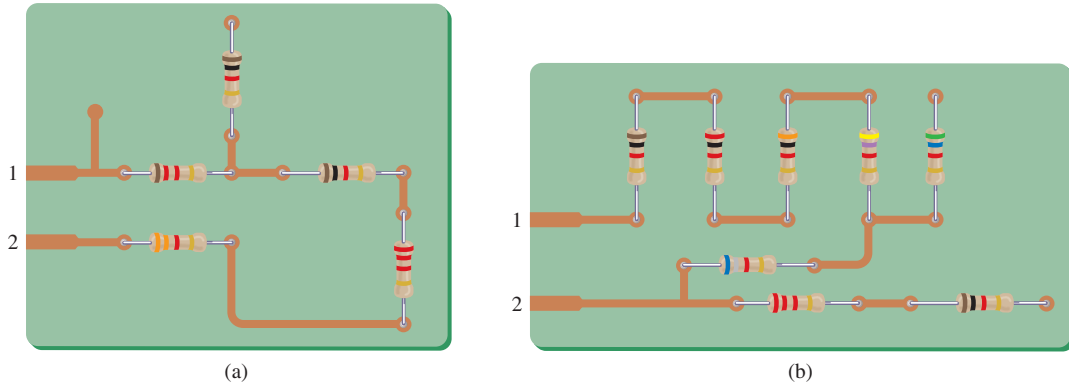

FIG. 5.87
3. For each circuit board in Fig. 5.87, find the total resistance between connection tabs 1 and 2.